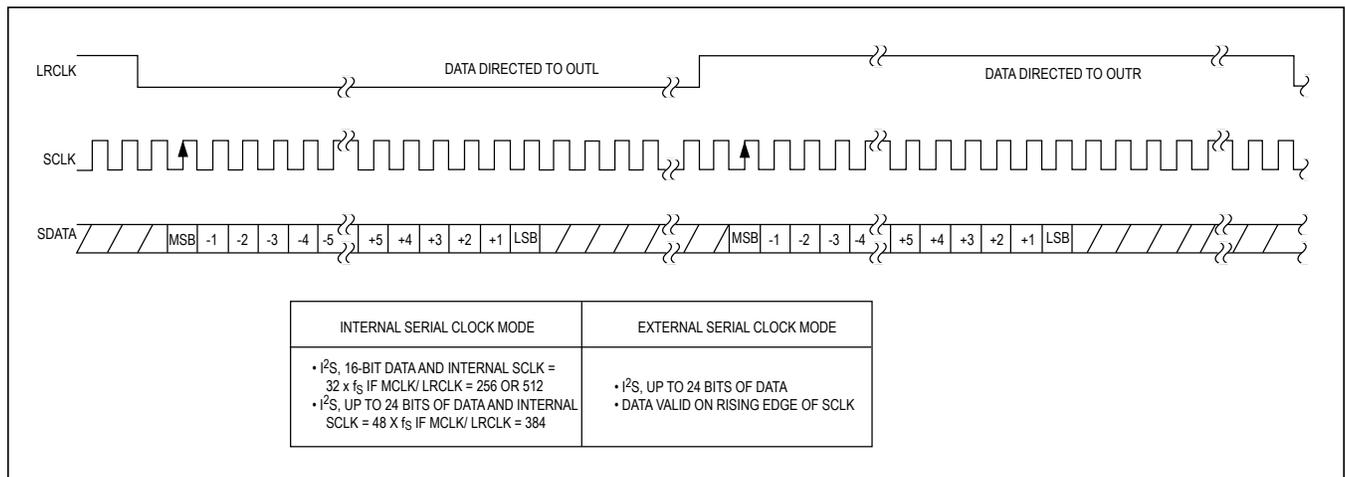

Figure 4. MAX5556 Data Format Timing
- Note 6:** In external SCLK mode, LRCLK duty cycles are not limited, provided all data formatting requirements are met. See Figure 4.
- Note 8:** The SCLK/LRCLK ratio can be set to 32, 48, or 64, depending on the MCLK/LRCLK ratio selected. See Figure 4.
The serial interface strobcs data (SDATA) in on the rising edge of SCLK, MSB first. The MAX5556 supports four different data formats, as detailed in Figure 4.
LRCLK is the left/right clock input signal for the 3-wire interface and sets the sample frequency ( $f_S$ ). On the MAX5556, drive LRCLK low to direct data to OUTL or LRCLK high to direct data to OUTR (Figure 4). The MAX5556 accepts data at LRCLK audio sample rates from 2kHz to 50kHz.
The MAX5556 accepts data with an I2S left-justified data format, accepting 16 or 24 bits of data. SDATA accepts data in two's complement format with the MSB first. The MSB is valid on the second SCLK rising edge after LRCLK transitions low to high or high to low (Figure 4). Drive LRCLK low to direct data to OUTL. Drive LRCLK high to direct data to OUTR. The number of SCLK pulses with LRCLK high or low determines the number of bits transferred per sample. If fewer than 24 bits of data are written, the remaining LSBs are set to 0. If more than 24 bits are written, any bits after the LSB are ignored.